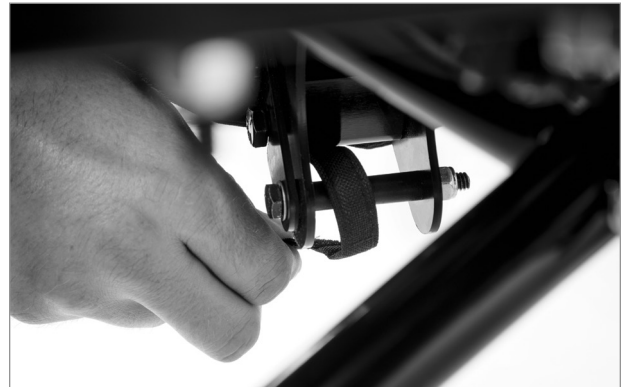

Figure 23
- a. Access the collapse force adjustment by removing the bottom strap of the front cover, as shown. *(figure 23)*